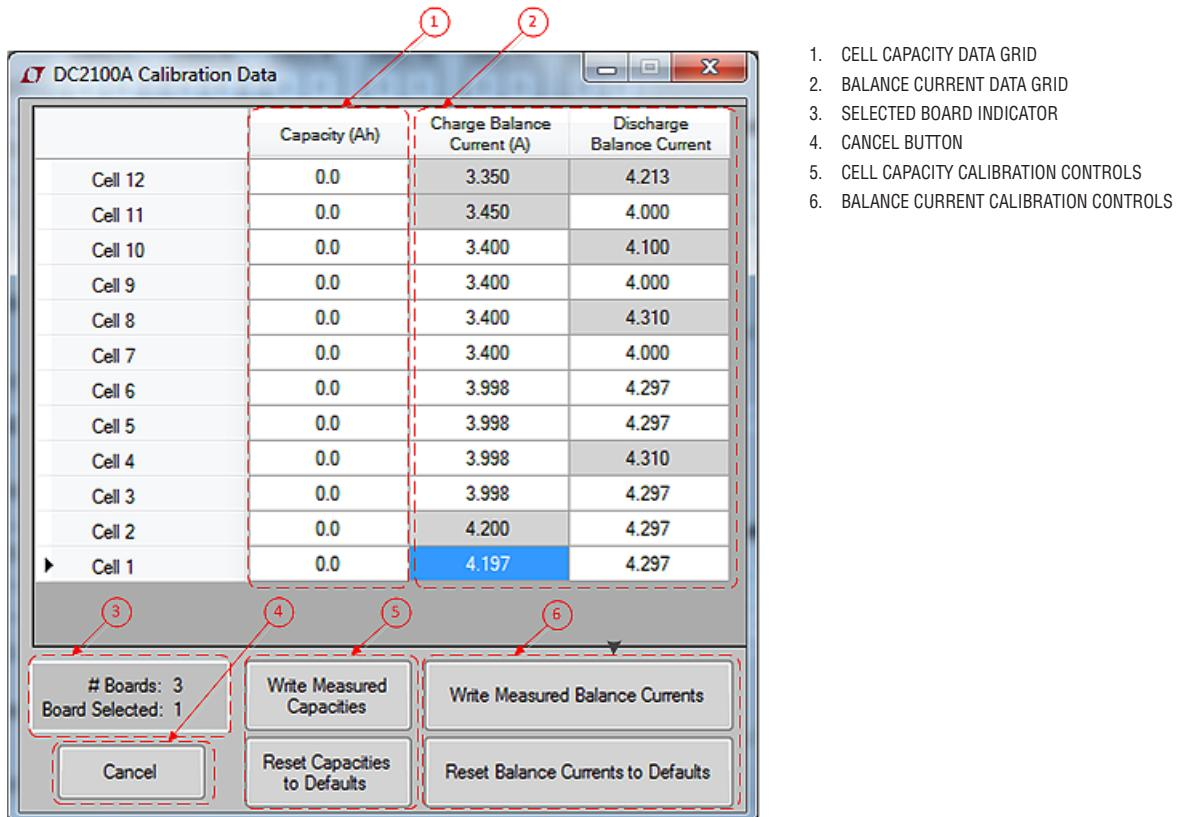

Figure 31. Calibration Data Window
3. CALIBRATION DATA WINDOW – FIGURE 31